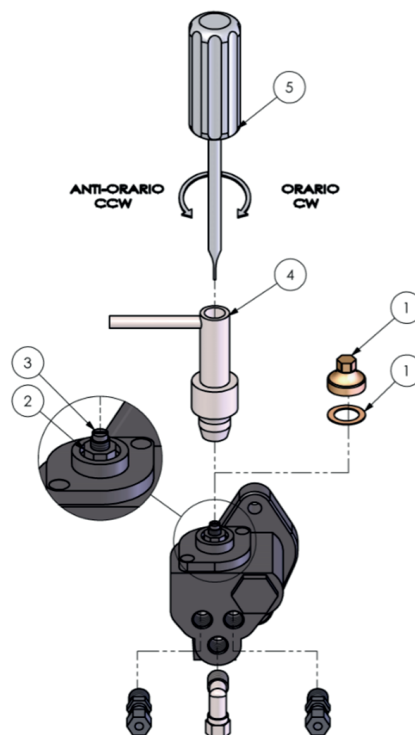

Fig. H.3 - Oil pump adjustment
- Remove the cover **pos.1 Fig. H.3**.
- Use the screwdriver **pos.5 Fig. H.3** in the spanner **pos.4 Fig. H.3** and insert it on the register **pos.3 Fig. H.3** and locking nut **pos.2 Fig. H.3**.
- While holding the register **pos.3 Fig. H.3** steady, release the blocking nut **pos.2 Fig. H.3**.
- Fully screw in the adjuster **pos.3 Fig. H.3**.